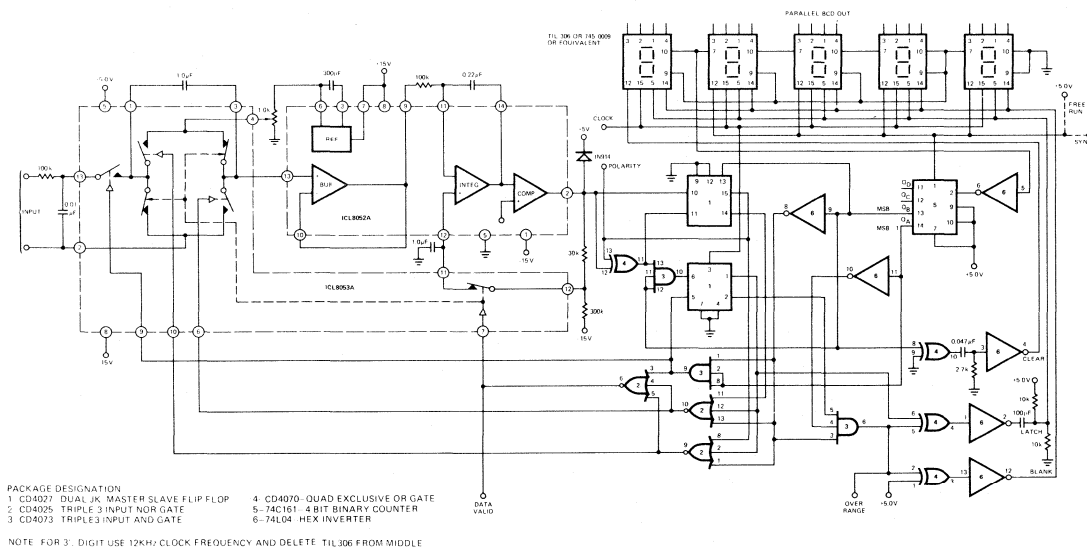

FIGURE 5. GENERAL CIRCUIT FOR A FAMILY OF DVM's.
(1) Tested in 3½ digit (2,000 count) circuit shown in Fig. 5 clock frequency 12 kHz.
(2) Tested in 4½ digit (20,000 count) circuit shown in Fig. 5 clock frequency 120 kHz.
Figure 5 shows the complete circuit for a 4-1/2 digit ($\pm 2.000V$ full scale) A-D with LED readout and parallel BCD data lines. In addition to the 8052/8053, this circuit uses 6 low-cost CMOS packages for control and 5 TIL 306 as a combination LED readout, synchronous counter, and BCD latch. In this circuit, the clock runs continuously driving the 5 decade counters in the TIL 306's. The carry from the fourth decade is used to trigger the state F-F. Thus, each of the four states lasts for 10,000 counts. At the beginning of state 10, the 5th decade is cleared. None of the other counters need to be cleared since they automatically roll to 0000 at this point. When the zero-crossing F-F detects the end of the measurement, a latch pulse is initiated. The R-C time constant of this pulse is selected long enough (50nSec) to assure the latches turn on, but short enough (3 μ Sec) to assure that the latches are de-
In figure 5, the lines marked (MSB) and (MSB-1) are connected to Q_B and Q_A of the 4-bit state flip-flop respectively. This forces a change in state for each carry pulse (10,000 counts) from the decade counters. If the lines were moved to Q_C and Q_B respectively, two carry pulses (20,000 counts) would be required to change states. Since full-scale is two states long, the max count now becomes 40,000; (actually 39,999). Similarly if Q_D and Q_C are used the max count is now 7,999 (one less decade counter would be used in this case). The ability to easily change max count (full scale) is most useful where the A-D converter is measuring physical constants such as temperature, distances, weight, etc. It allows designer to match the digital reading of the instrument to the analog range of the transducer. Since the analog input required to generate full scale output is $2V_{REF}$ in every case, an almost endless variety of scale factors can be generated easily from one
Specific circuits demonstrating this principle are shown in figures 5 and 6. An 800.0mV full scale A-D can be obtained from the 2.0000V instrument shown in figure 5 with the three following modifications: